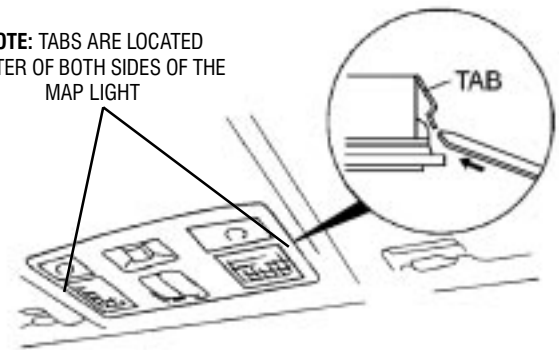

FIGURE 15
- 2.) PRESS THE TAB AND REMOVE THE MAP LIGHT. (SEE FIGURE 15)